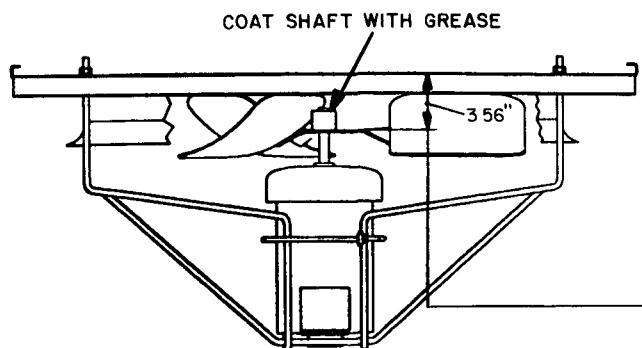

**Fig. 20 — Condenser-Fan Adjustment**
**Condenser Fans and Motors** — Each unit has 2 condenser fans and motors; these are factory set. See Fig. 20 for correct location of fan in orifice. Check that fan propeller rotation is correct; it should be counter-clockwise when facing the fans.